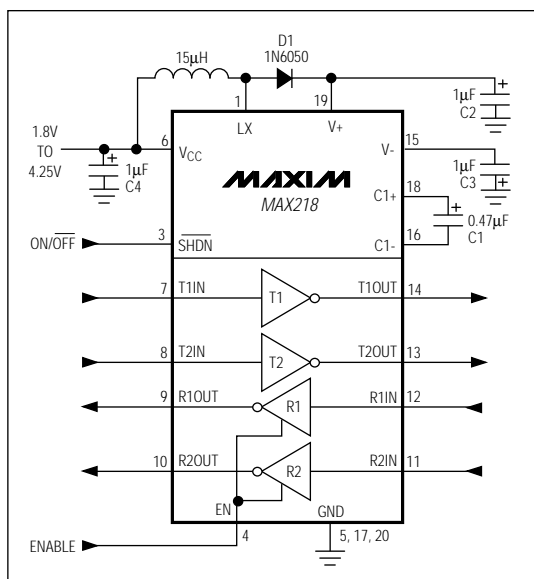
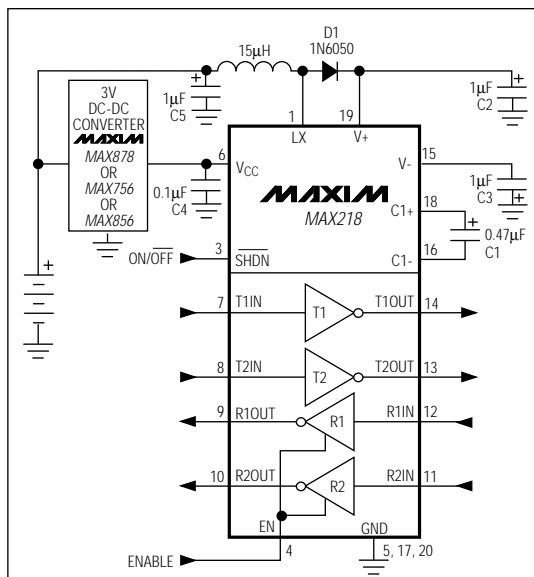

Figure 1. Single-Supply Operation
Figure 2. Operating from Unregulated and Regulated Supplies
(Circuit of Figure 1, VCC = 1.8V to 4.25V, C1 = 0.47μF, C2 = C3 = C4 = 1μF, L1 = 15μH, TA = TMIN to TMAX, unless otherwise noted. Typical values are at VCC = 3.0V, TA = +25°C.)
**Note 1:** Entire supply current for the circuit of Figure 1.
(Circuit of Figure 1,  $V_{CC} = 1.8V$  to  $4.25V$ ,  $C1 = 0.47\mu F$ ,  $C2 = C3 = C4 = 1\mu F$ ,  $L1 = 15\mu H$ ,  $T_A = T_{MIN}$  to  $T_{MAX}$ , unless otherwise noted. Typical values are at  $V_{CC} = 3.0V$ ,  $T_A = +25^\circ C$ .)
(Circuit of Figure 1,  $V_{CC} = 1.8V$ , all transmitter outputs loaded with  $3k\Omega$ ,  $T_A = +25^\circ C$ , unless otherwise noted.)
Use capacitors with values at least as indicated in Figure 1. Capacitor C2 determines the ripple on V+, but not the absolute voltage. Capacitors C1 and C3 determine both the ripple and the absolute voltage of V-. Bypass VCC to GND with at least 1µF (C4) placed close to pins 5 and 6. If the VCC line is not bypassed elsewhere (e.g., at the power supply), increase C4 to 4.7µF.
The MAX218 is intended for use with three different power-supply sources: it can be powered directly from a battery, from a 3.0V or 3.3V power supply, or simultaneously from both. Figure 1 shows the single-supply configuration. Figure 2 shows the circuit for operation from both a 3V supply and a raw battery supply—an ideal configuration where a regulated 3V supply is being derived from two cells. In this application, the MAX218's logic levels remain appropriate for interface with 3V logic, yet most of the power for the MAX218 is drawn directly from the battery, without suffering the efficiency losses of the DC-DC converter. This prolongs battery life.
Operate your whole system from the raw battery voltage rather than suffer the losses of a regulator or DC-DC converter. If this is not possible, but your system is powered from two cells and employs a 3V DC-DC converter to generate the main logic supply, use the circuit of Figure 2. This circuit draws most of the MAX218's